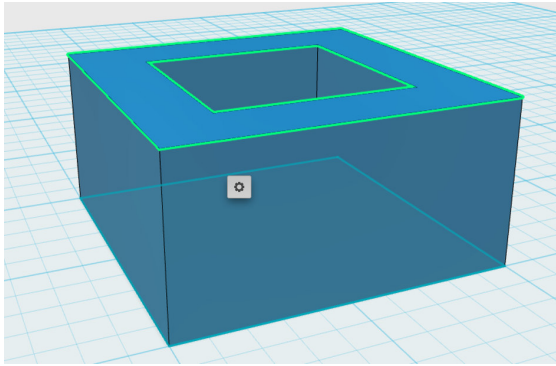

Figure 4-24 Select a method to alter
3. To alter, hover over the gear icon and select a method to alter your selection (Figure 4-24).